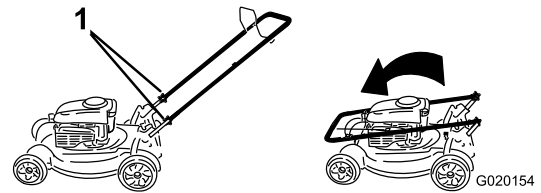

Figure 20
1. Loosen the handle knobs until you can move the handle freely (Figure 20).
1. Handle knob (2)
2. Move the handle forward as shown in Figure 20.